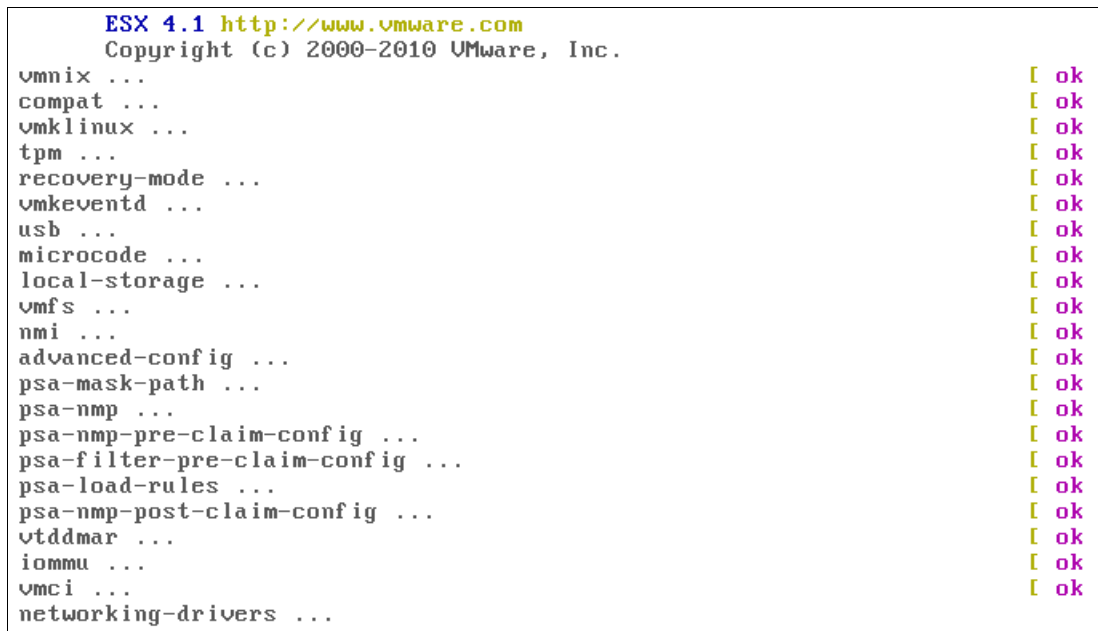

Figure 22-35 ESX Boot sequence
22. The boot panel follows as shown in Figure 22-35.